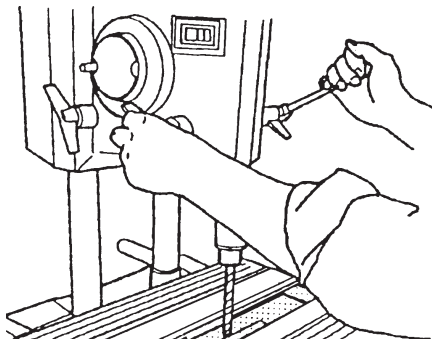

Figure 19
8. With the Drill Bit above the Table Opening, use the Quill Feed Handel to extend the Bit 1/2" into the Table Opening, as shown in Figure 19.